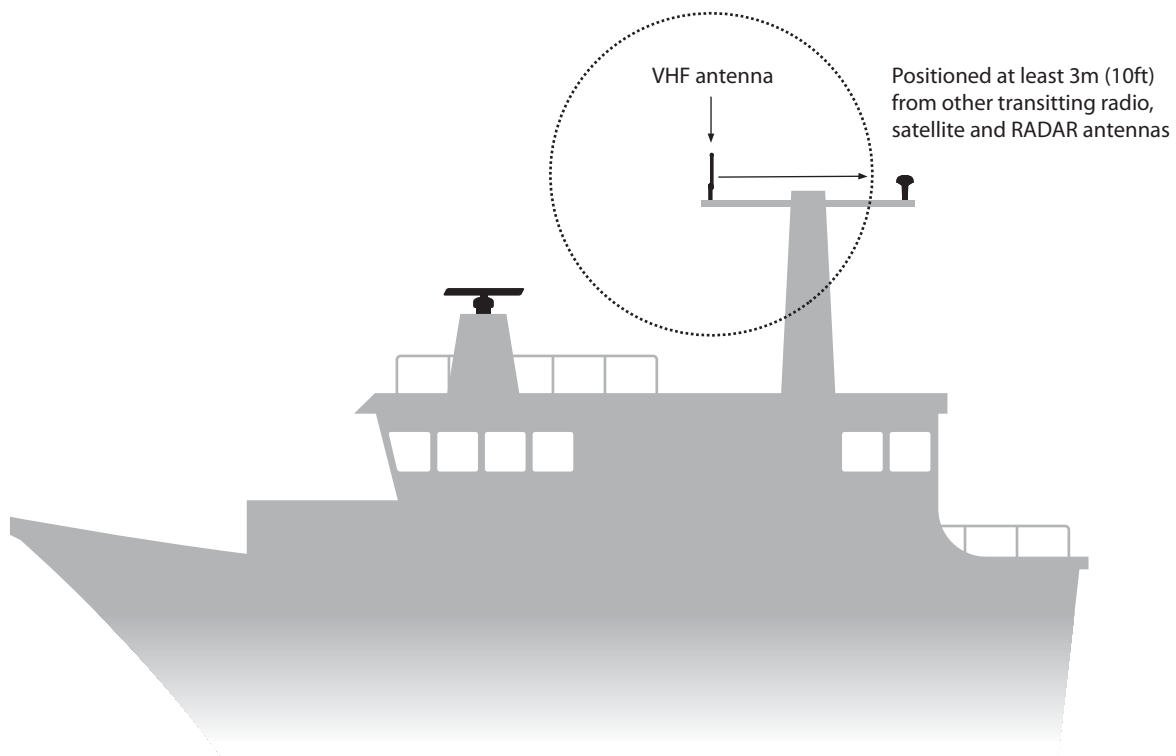

Figure 41 VHF antenna installation
- Ideally the AIS VHF antenna should be mounted directly above or below the ship's primary VHF radiotelephone antenna, with no horizontal separation and with a minimum of 2m vertical separation. If it is located on the same horizontal level as other antennas, the distance apart should be at least 10m. Refer to Figure 41 for further guidance.